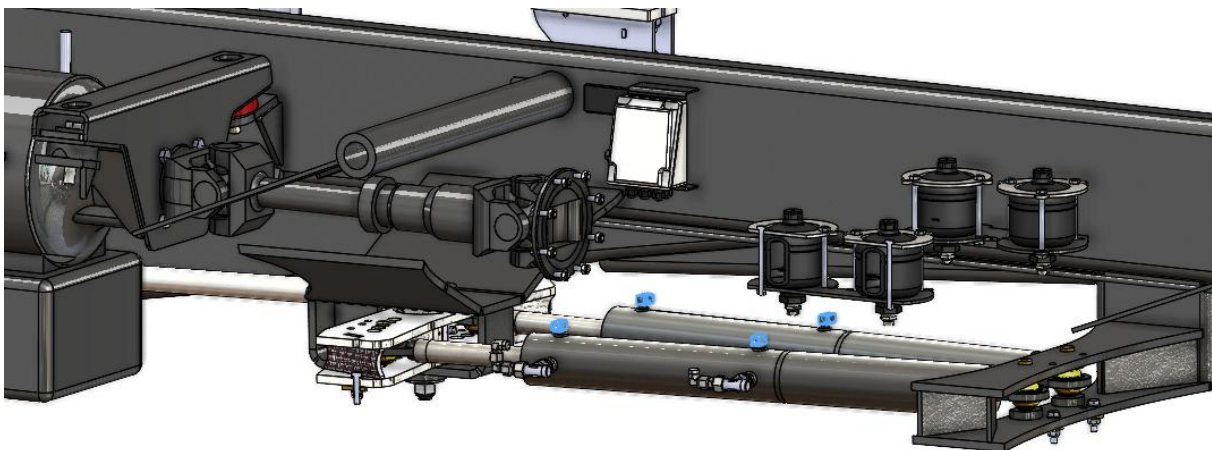

Figure 13-8 Vent openings Command cylinders
- Open the bleed valves on the command cylinder(s), see Figure 13-8. Please note, the bleed valves must always be placed at the top of the command cylinder(s), otherwise they cannot be bled properly!